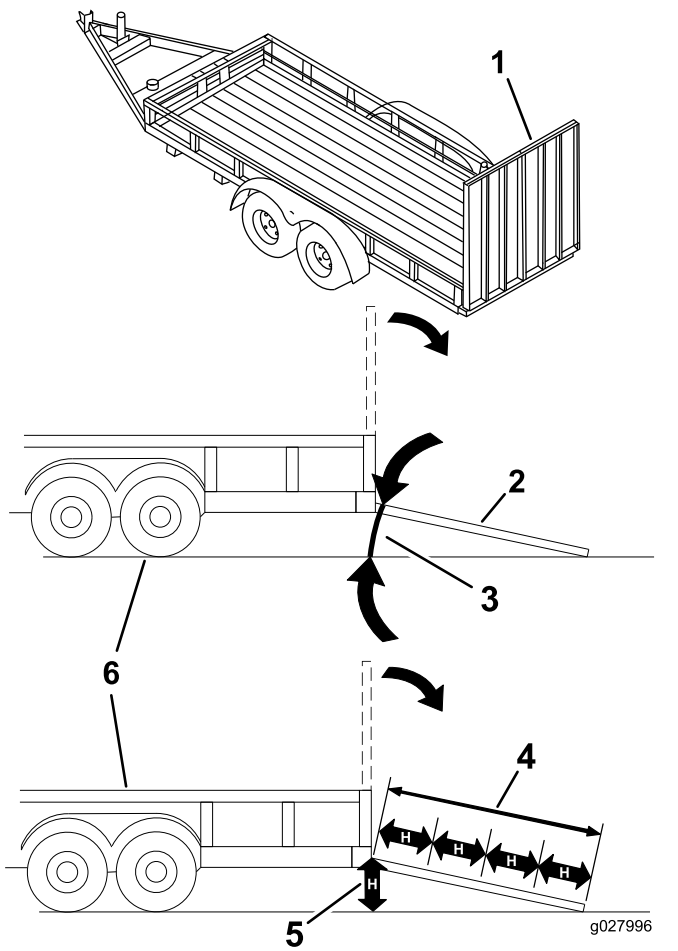

Figure 26
**Loading a machine onto a trailer or truck increases the possibility of tip-over and could cause serious injury or death (Figure 26).**
3. Lower the ramp, ensuring that the angle between the ramp and the ground does not exceed 15 degrees (Figure 26).
1. Lower the ramp, ensuring that the angle between the ramp and the ground does not exceed 15 degrees (Figure 26).